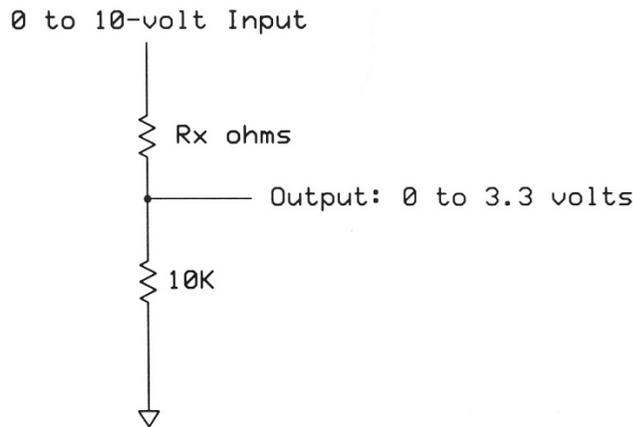

Figure 17.9.
1. If you want to use an ADC with an input range of 0 to 3.3 volts with a sensor that will produce a signal between 0 and 10 volts, you will need a voltage "divider" circuit similar to the one used with the photoresistor. Start with a circuit as shown in **Figure 17.9** and use a 10-kohm resistor as shown with a resistor of some value we'll calculate.